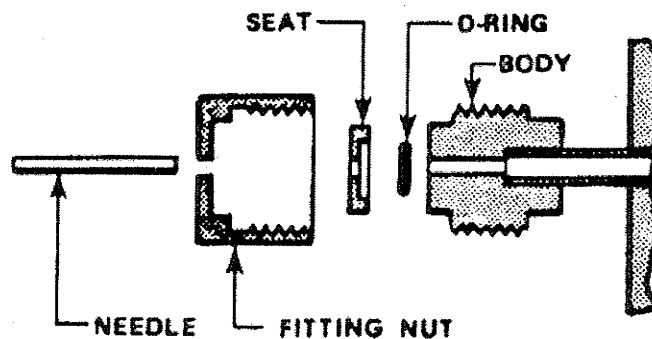

Figure 17 Disassemble Gas Injection Fitting
1. Loosen the nut, then withdraw the injection needle from the fitting. See Figure 17.